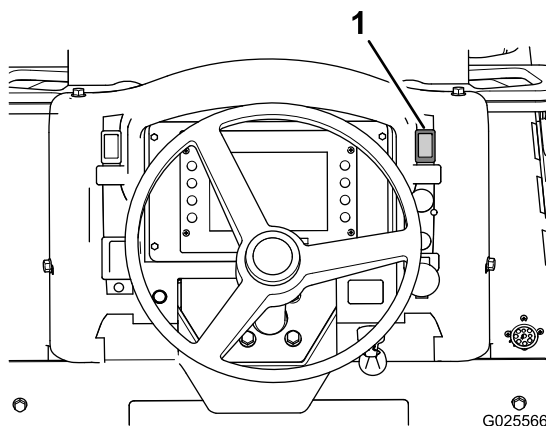

Figure 39
1. Toggle the parking-brake switch (Figure 39) up to apply the parking brake.